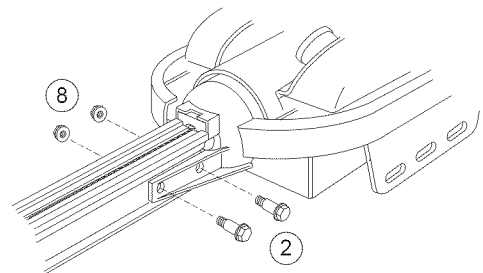

Figure 10 Bolt 1st Rail Section to Power Head
- D Connect first Rail Section to Opener Power Head. Connect with 2 (1/4"-20) (**yellow**) Hex Head Shoulder Bolts and 2 (1/4"-20) Hex Serrated Flange Nuts (**Figure 10**). **Finger-tighten until later.**